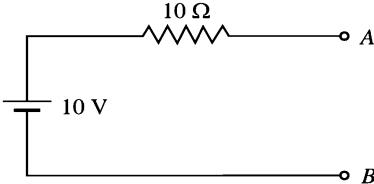

Fig. 1.16
**Example 1.3.** Convert the constant voltage source shown in Fig. 1.16 into constant current source.
- (i) Place a short across AB in Fig. 1.16 and find the short-circuit current  $I$ .